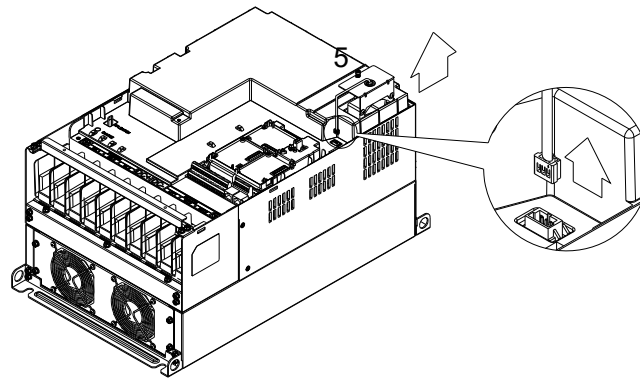

Figure 3
- Loosen screw 5 (figure 3) and disconnect fan power and pull out the fan. (As shown in the enlarged picture 3) Screw 5 Torque: 10–12 kg-cm / [8.6–10.4 lb-in.] / [1.0–1.2 Nm]